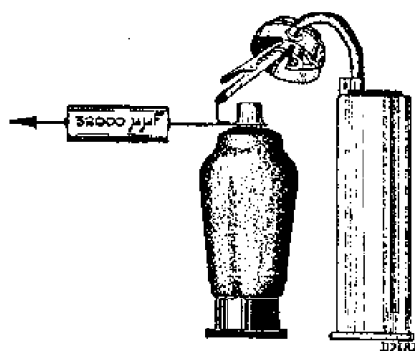

Fig. 2.
7. Apply modulated signal of 128 K.C. via 32,000 μμF to the fourth grid of L1 (Fig. 2).